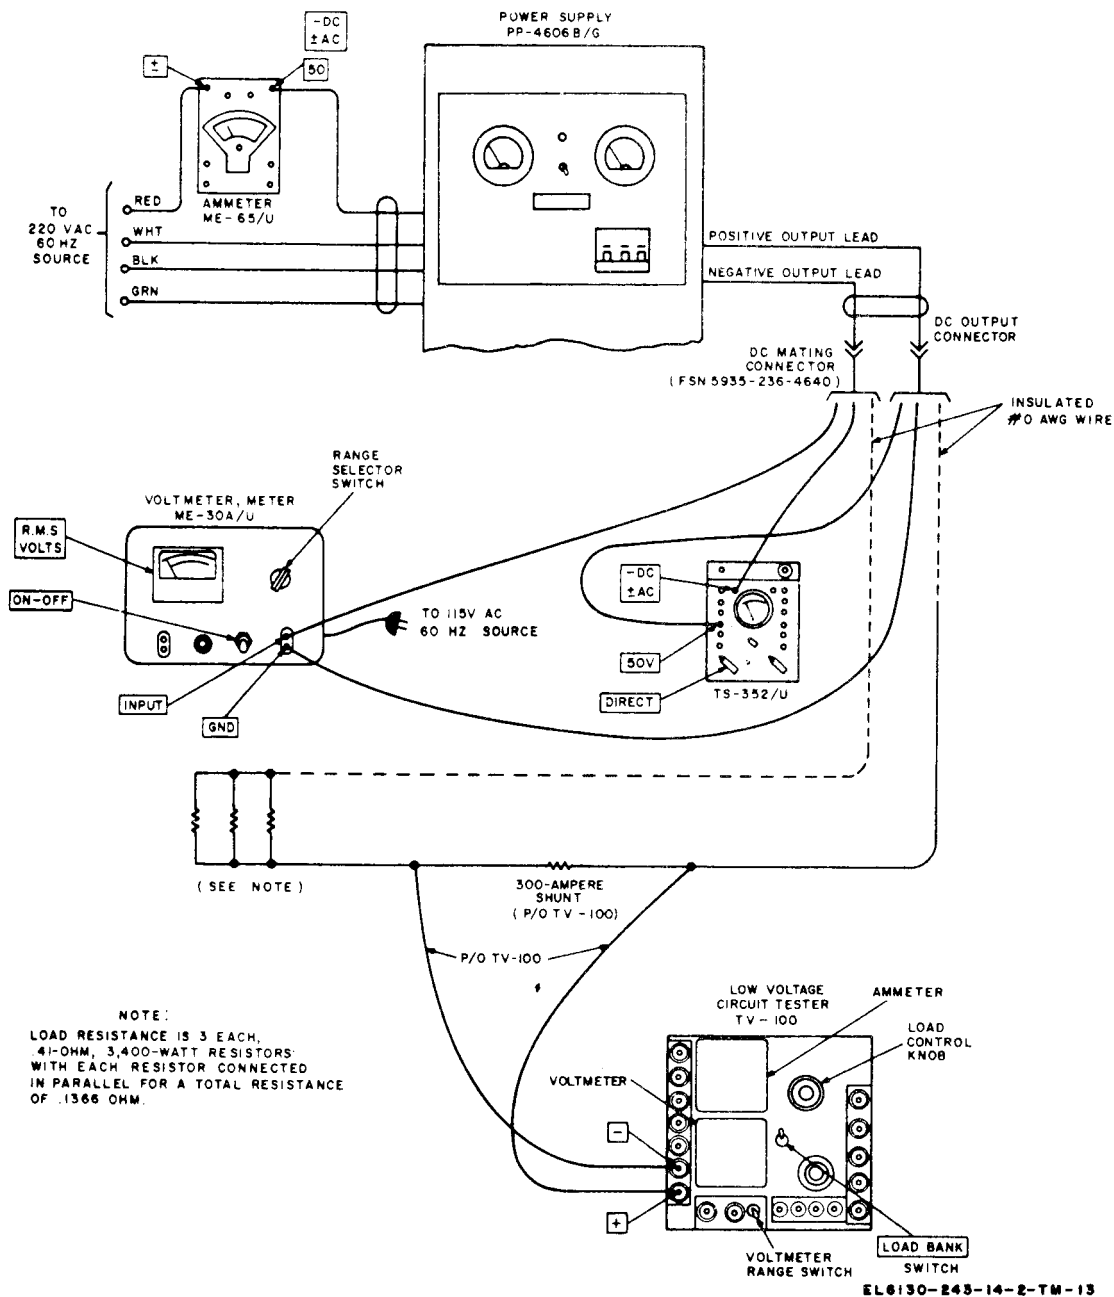

Figure 6-1. Connection diagram for power output, regulation, and ripple test at 220-volt input.
- (1) Voltmeter, Meter ME-30(*)/U.
- (2) Ammeter ME-65/U.
- (3) Multimeter TS-352B/U.
- (4) Low Voltage Circuit Tester TV-100.
- (5) Resistance element, 0.41-ohm, 3,400-watt; 3 required.
- (6) Power cable (as fabricated).
- (7) Mating connector (FSN 5935-236-46-40).
b. Test Connection and Condition. Connect the equipment as shown in figure 6-1. (This test is written for operation of the power supply at 220 volts ac.) *Do not* connect the load and the TV-100 to the power supply until instructed to do so in the procedure given in c below.